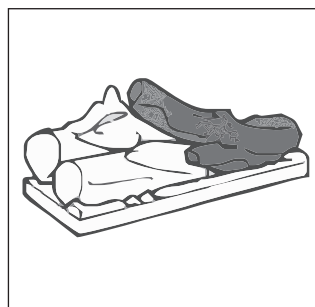

FIG 15
c) Place log #3 on single right front pin, ensure fork locates over log #2. Refer **FIG 15**.